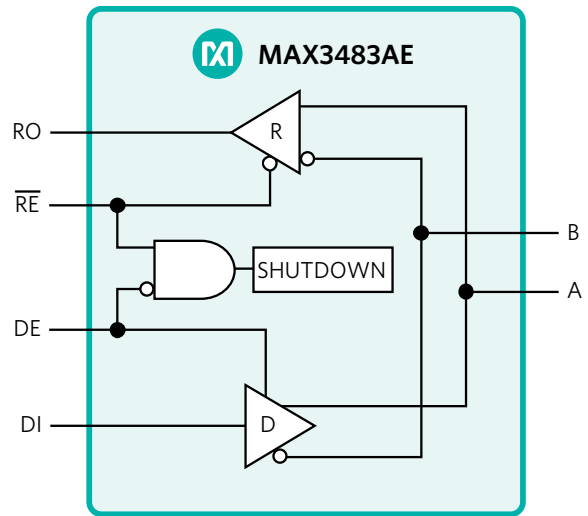

Figure 5. MAX3483AE Block Diagram
This half-duplex transceiver (Figure 5) is optimized for extended cable runs in noisy environments. By considering the tradeoff between data rate and cable length, MAX3483AE allows you to design a system that operates over cable lengths of hundreds of meters, without repeaters. The receiver features a unit-load input impedance, allowing up to 32 devices on a single bus. MAX3483AE also includes a fail-safe receiver, ensuring that the receiver output (RO) is high when inputs are shorted, open, or connected to a tristate bus. In addition to ±20kV HBM ESD protection, all transmitter outputs and receiver inputs are protected to ±15kV air-gap ESD and ±8kV contact ESD in accordance with IEC 61000-4-2. The MAX3483AE is available in the industry standard 8-pin SO package.